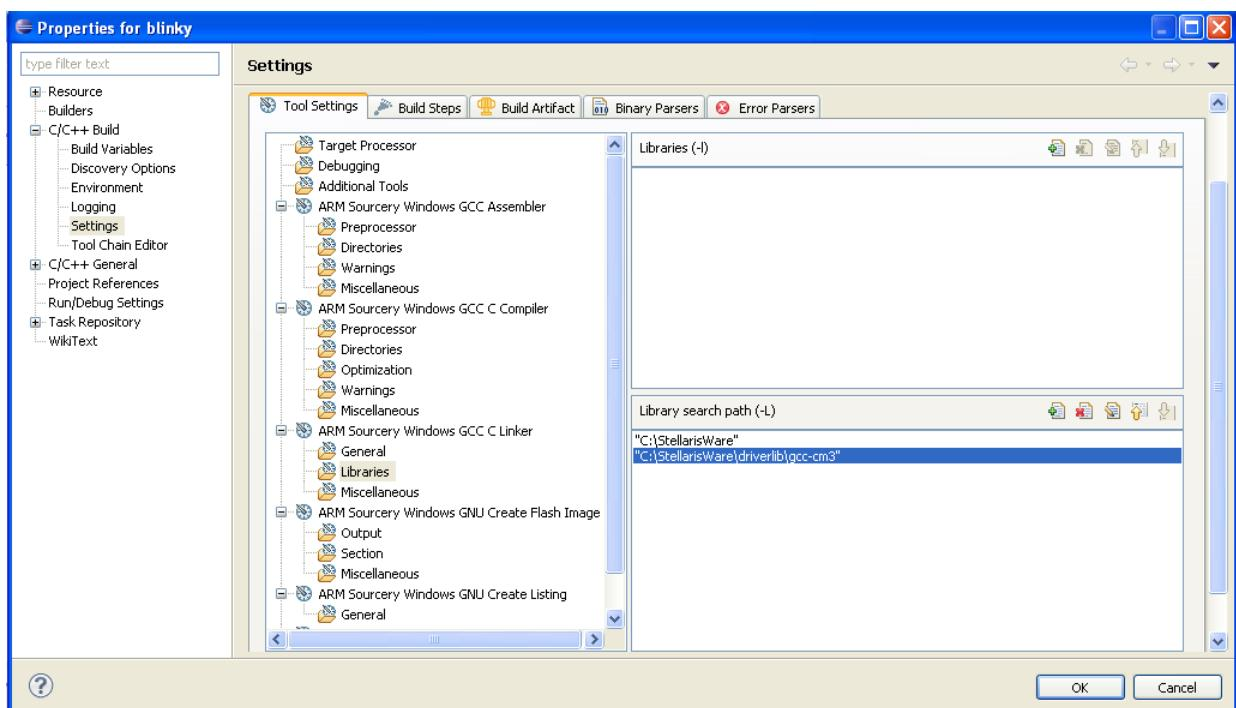

**Figure 14.14 Linker File**
- Make sure the same options are selected as shown in figure 14.14.